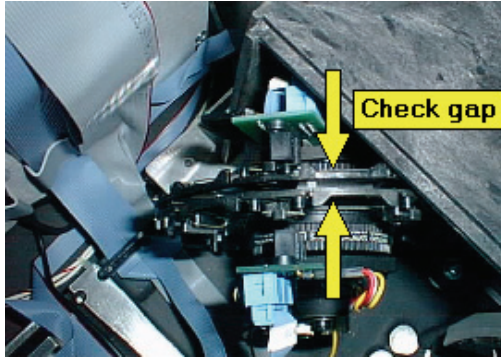

Figure 104 Checking the clearance
8. Before tightening the fixing screws fully, check that the emission filter wheel and emission polarizer wheel are correctly set and do not touch one another during rotation, as shown in Figure 104.